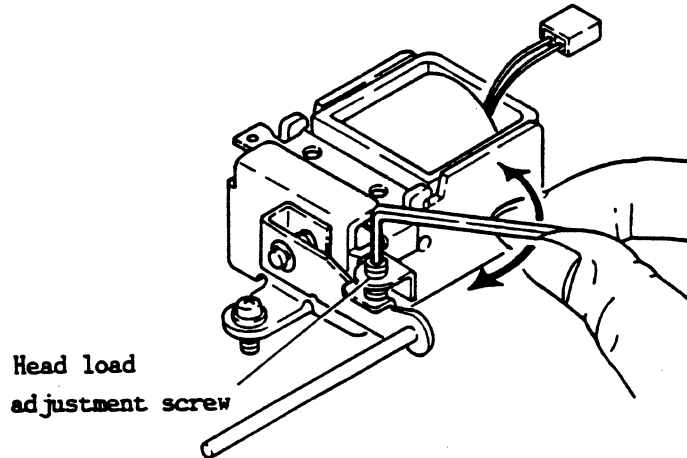

Figure 4-18 Head Load Adjustment Screw
7. If the Head Load Interval is greater than 50 milliseconds, adjust the head height using the 1.5mm Allen wrench, as shown in Figure 4-18 below, and repeat steps 5 and 6.